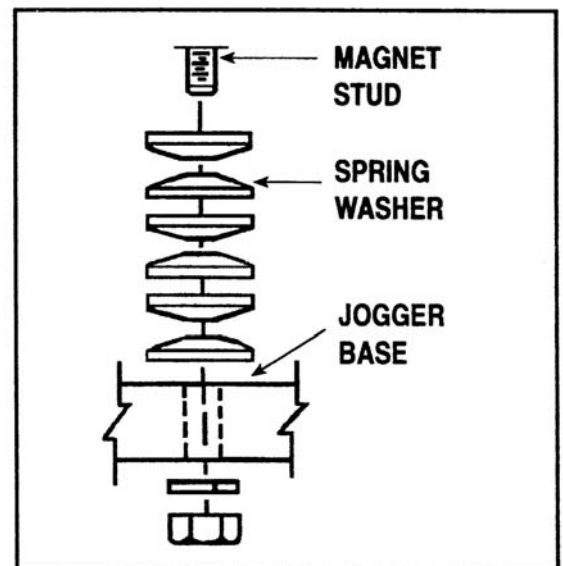

FIGURE 2: SPRING WASHER ARRANGEMENT
3. Lift the base and remove the two hex nuts and lockwashers (Z) which secure the magnet assembly (FF) to the base (DD).
4. Install the new magnet assembly, arranging the spring washers (U) as shown in Figure 2.
5. Secure the magnet assembly (FF) to the base (DD) with the hex nuts and lockwashers (Z).
6. Connect the magnet leads to the terminal block at the control panel (EE).